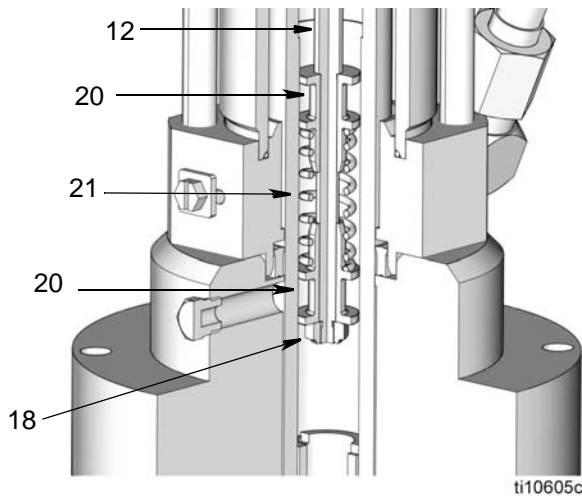

FIG. 22
13. Visually inspect the spring (21). If there is wear or damage, remove nut (18), spring (21) and retainers (20) from the trip rod (12) (FIG. 22).